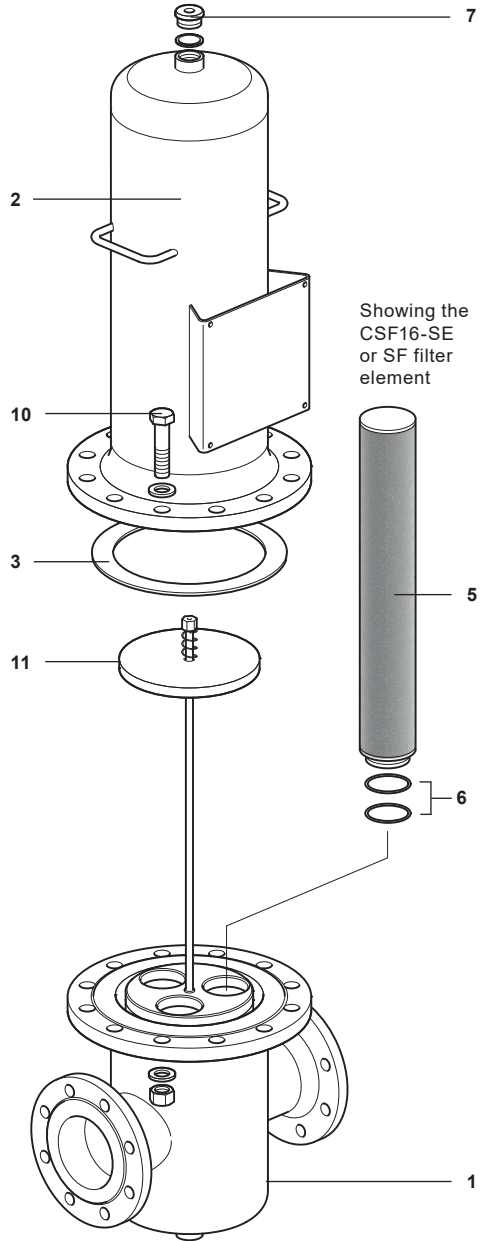

Fig. 8 DN100 and DN150L
2. The housing ring (4) or housing bolts (10) holding together the filter housing head (2) and the filter housing bowl (1) should be unscrewed using the appropriate spanner. The filter housing head (2) can then be removed.
3. The filter element seals (2 off, item 6) should then be lubricated using a lubricant suitable for the application, before fitting to the filter housing bowl (1).
4. The filter element (5 - please note that there are multiple elements for the larger sizes) needs to be gently pushed into the filter housing bowl (1).
5. **When multiple elements are fitted**, the filter support assembly (11) must be assembled and fitted as shown in Fig. 8.
6. Ensure the filter housing seal (3) is fitted.
7. **For sizes DN8 to DN80:** The housing ring (4) should then be carefully placed into the seating land on the filter housing head (2), before then gently lowering the filter housing bowl (1) over the filter element and tightening the housing ring (4). The housing ring (4) is designed with a coarse thread to minimise the possibility of galling. Thread lubrication is not normally necessary. However, a thread lubricant may be used if required.
- For sizes DN100 and DN150:** Gently lower the housing head (2) over the filter elements and place it onto the housing bowl (1). Tighten the housing bolts to the recommended torque - See Table 1.